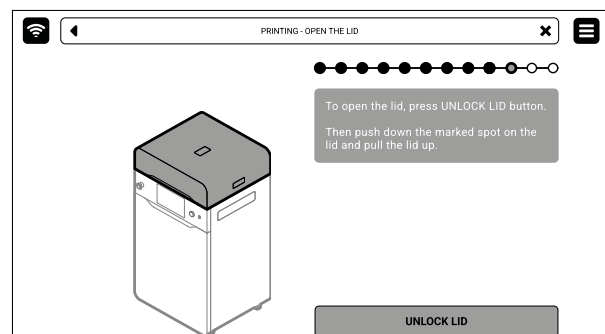

Fig. 6.3 Releasing the electrolock.
1. Slide the **UNLOCK LID** button to release the electrolock and allow the print chamber to be opened (fig. 6.3). Remember, you only have 10 seconds to open it before the lock activates again.